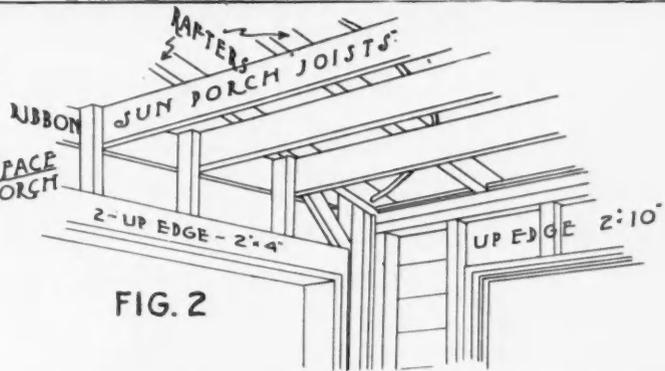

FIG. 2
In Fig. 2 it can be seen that the plate for the porch roof is a double two by four carried over the window span by a two by ten on edge. The contractor that is building this house has a cordial dislike for casement windows, but I know that his casement windows are as weatherproof as can be made. His idea is to protect the casing from any strain.
- FIG. 2 FRAMING PORCH CEILING, OUTSIDE.